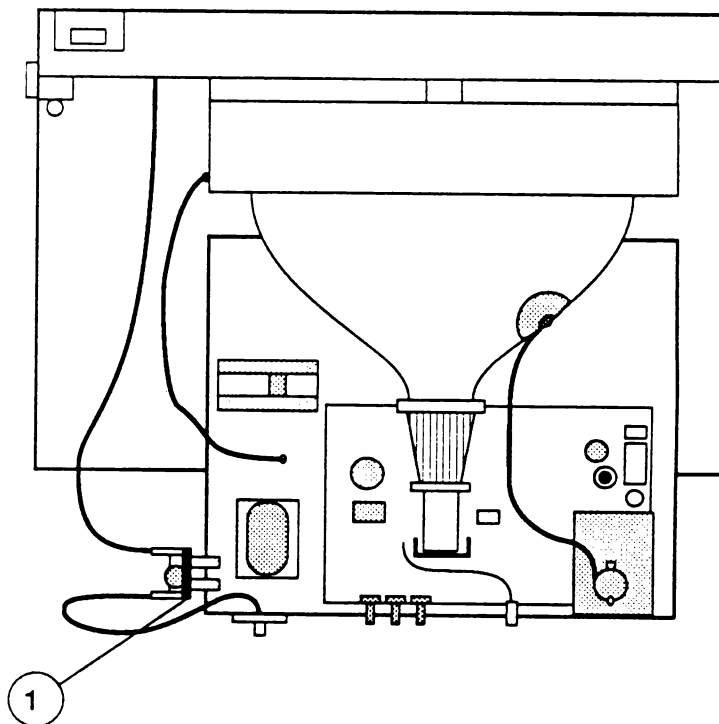

**FIGURE 16**
3. Locate the line filter board (Figure 16, #1).